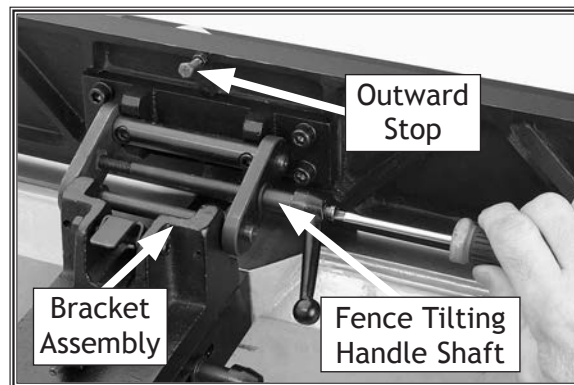

Figure 15. Installing the fence tilting handle.
- Install the fence tilting handle by screwing the handle shaft into the bracket assembly, as shown in **Figure 15**.